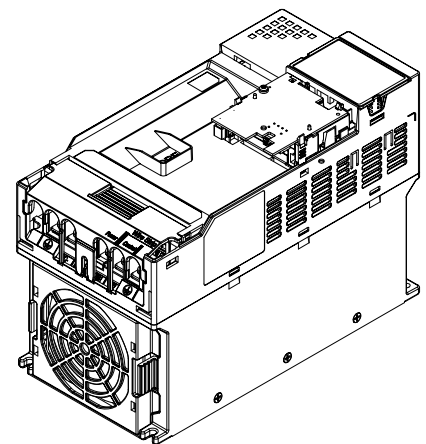

Figure 8-19
6. Assembly is completed, as shown in Figure 8-19.